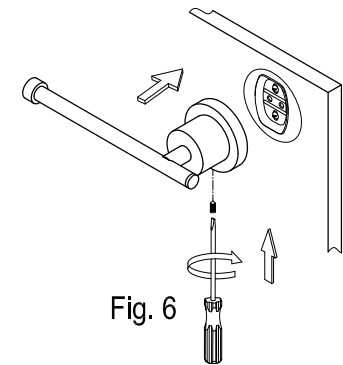

Fig. 6
- Step 6. Place the unit, with the small hole in the base underneath, over the mounting plate by tightening the slotted set screws with a flat head screwdriver until the base is tightly fixed (fig 6).
- Step 5. Place the unit, with the small hole in the base underneath, over the mounting plate by tightening the slotted set screws with a flat head screwdriver until the base is tightly fixed (fig 6).